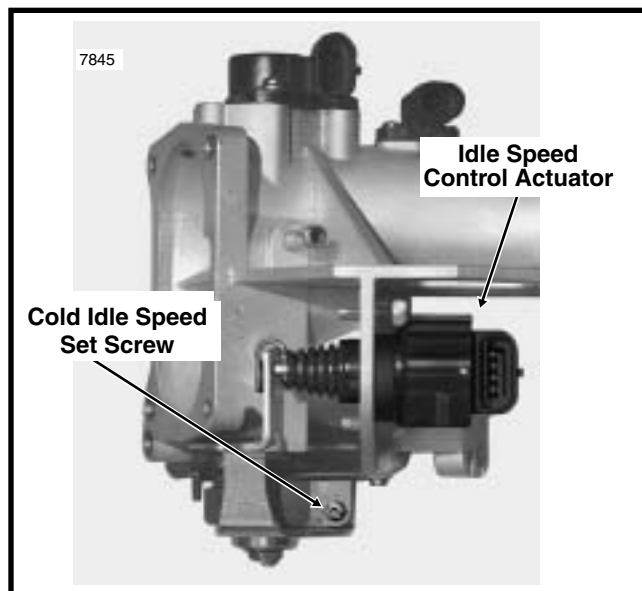

Figure 1. Induction Module (Top View)
- c. Unplug the wire harness connector from the idle speed control actuator. See Figure 1.